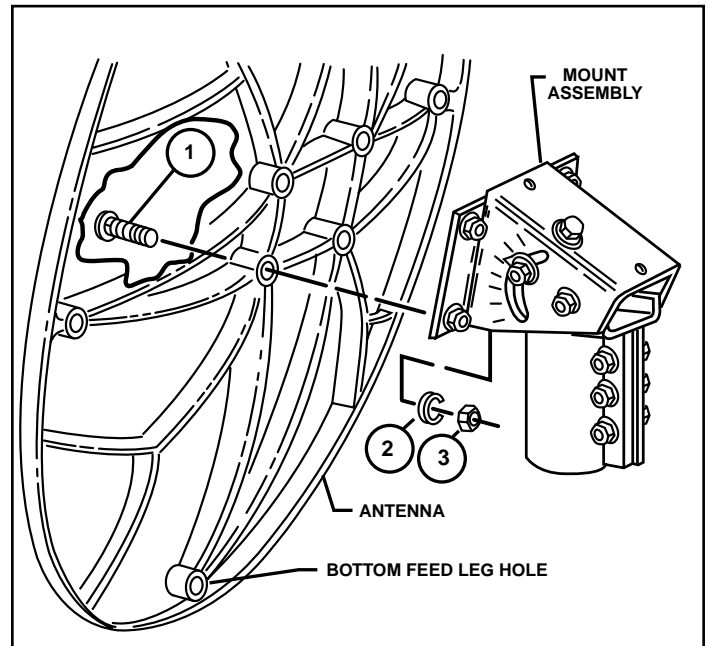

FIG. 2.0 - ASSEMBLING REFLECTOR TO AZ/EL CAP MOUNT
Install four M8 x 60mm (2 $\frac{3}{8}$ " ) carriage bolts (1) into holes in center of reflector and assemble to cap mount flanges. (Reference Fig. 2.0) Install four lock washers (2) and hex nuts (3) on bolts. Tighten and torque to 11 ft.-lbs (15 N-m).
**IMPORTANT!** Bottom feed leg hole to be located as shown in Fig. 2.0.